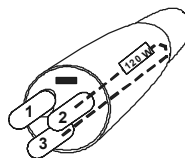

Figure 2-10 Data cable terminator
2. Solder a 120 ohm resistor, minimum of 1/4 watt, between pins two and three (see Figure 2-10)